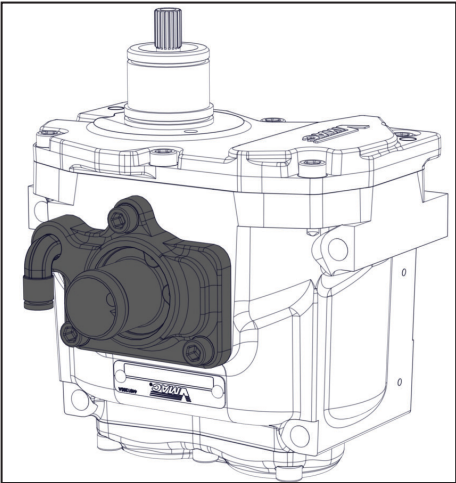

**Figure 7 — Free the field coil wire**
☐ Cut the cable tie securing the field coil wire (Figure 7).
- ☐ Remove the screw securing the cable tie tab on side of compressor; set the screw and tab aside for use later (Figure 7).